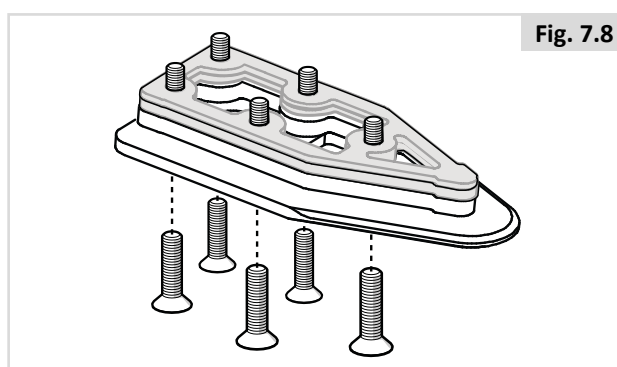

Fig. 7.8
3. Put the five screws through the lock plate, the mandatory 8 mm spacer and the selected optional spacers (grey in picture) (Fig. 7.8).